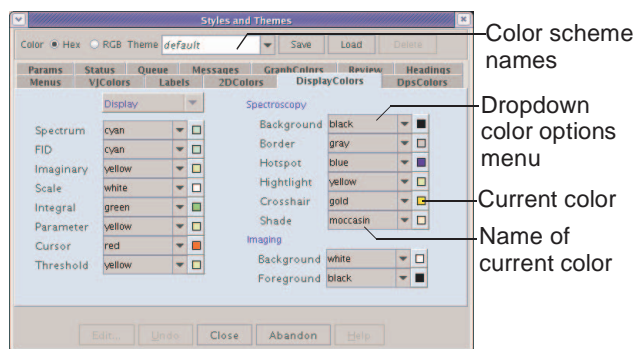

Figure 116. Setting Display Colors
2. Click on the **Display Colors** tab to show the colors of the current color scheme; see Figure 116.
2. Click on the **Display Colors** tab to show the colors of the current color scheme, see Figure 116.